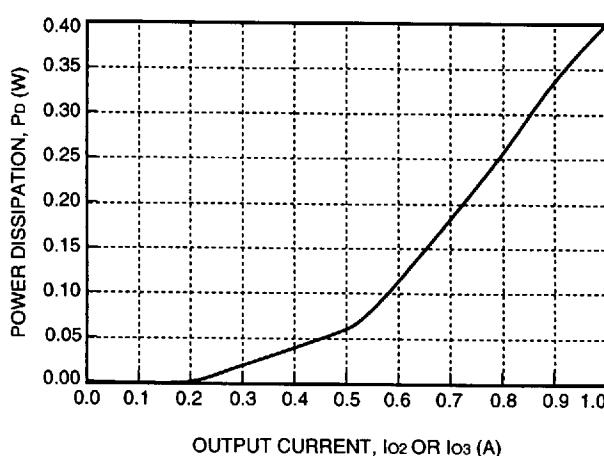

Figure 26. CC025ABK, Losses Associated with
4. Repeat Step 3 for outputs 2 and 3 using the appropriate figure (Figure 26 or 27) to determine P_{S2} and P_{S3} , which is the power dissipated due to loading of the auxiliary outputs.
$$P_{S2} = 0.07 \text{ W (from Figure 26)}$$
$$P_{S3} = 0.07 \text{ W (from Figure 26)}$$